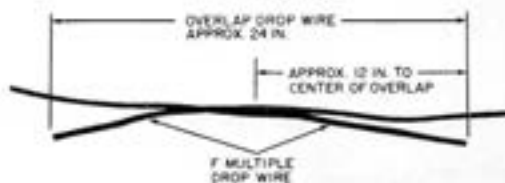

Fig. 18—Overlap Drop Wires
7.02 Splice F multiple drop wire as illustrated in Fig. 18 through 25.